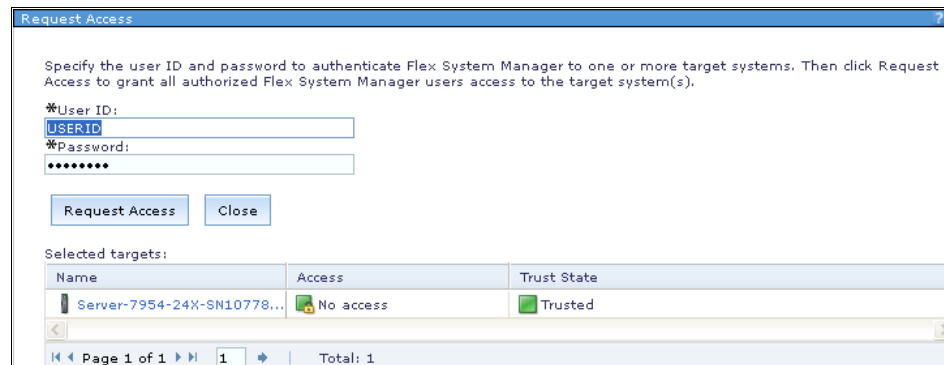

Figure 7-52 Requesting access to a Power compute node
2. In the Request Access window that opens (as shown in Figure 7-52), provide an FSM administrator UserID (centrally managed systems) or CMM supervisor UserID (non-centrally managed systems) and password, then click **Request Access**. In the Access column, the No Access status should change to OK.